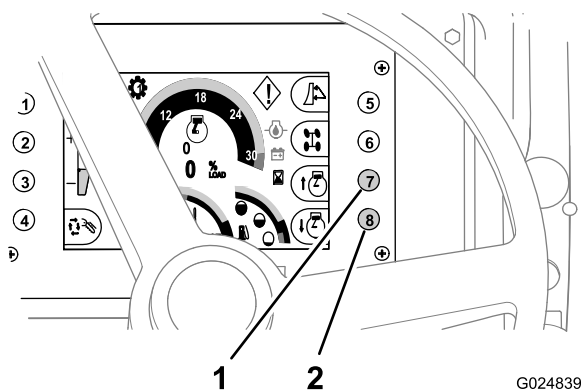

Figure 43
- To **increase** the engine speed, push button 7 on the command center (Figure 43).
- To **decrease** the engine speed, push button 8 on the command center (Figure 43).